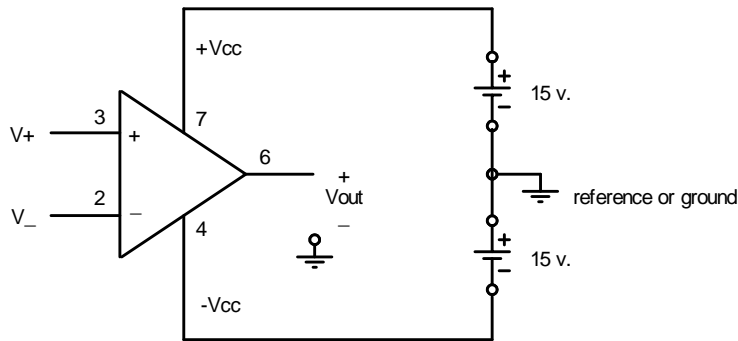

Figure 1 LM 741 Operational Amplifier Device Schematic and Labels
4. Set the oscilloscope to AC coupling mode and adjust the function generator to read 2V amplitude (4V peak to peak) and 1KHz. Copy the waveform in Figure 1.
The LM 741 op-amp that will be used in this experiment is an eight pin device. Figure 1 shows the schematic symbol and how the pins are labeled.